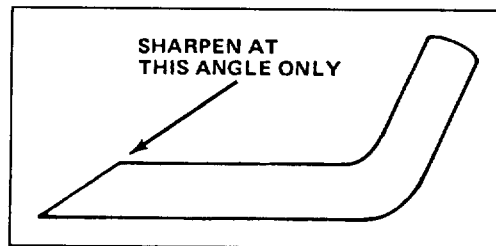

Figure 19
6. **SHARPENING BLADE**—Using a file, sharpen top side of blade and maintain original cutting angle (Fig. 19). The blade will remain balanced if the same